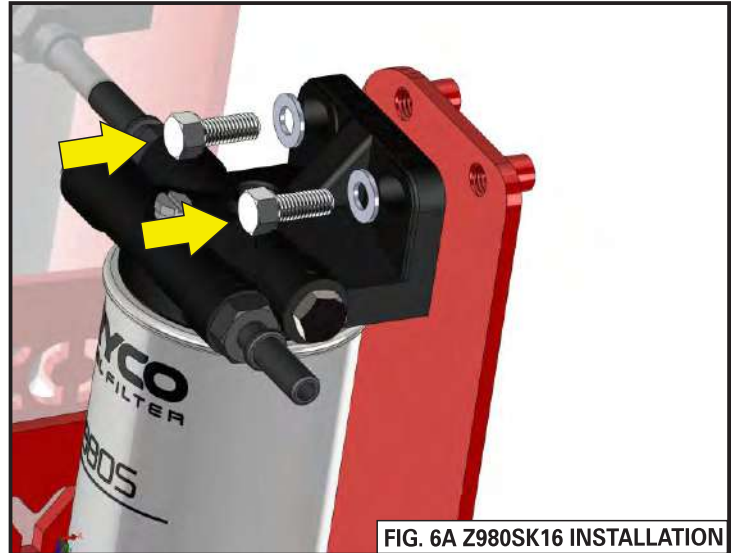

FIG. 6A Z980SK16 INSTALLATION
3. Using the M10 Bolts and Washers supplied in the Ryco Z980SK16 fuel water separator kit, attach the Z980SK16 to the FB9805FC bracket as shown in FIG. 6A.